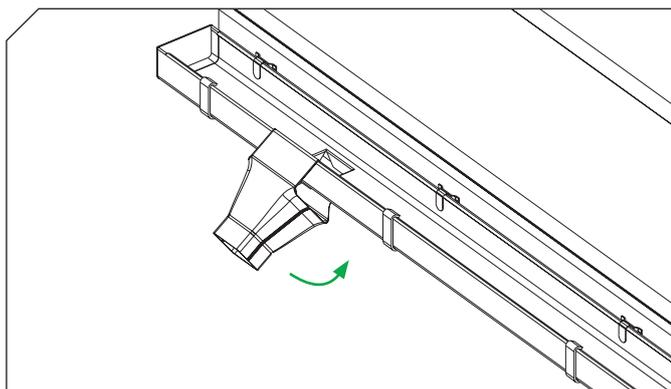

Figure 19
7.3 Attach the outlet to the gutter and bend the mounting plates (**Figure 19, 20**)